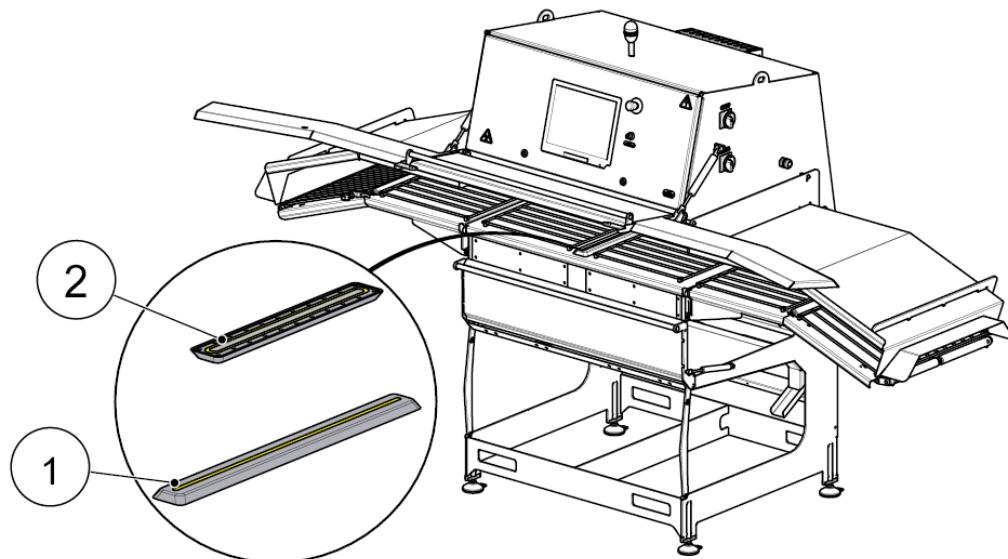

Figure 40 Wipe off the strips
3. Make sure that the product area above and under the conveyor are as dry as possible and without visible wet spots. Wipe upper and lower plastic strips **1** conveyor belt **2** and the grids **3**, shown in (Figure 40). Large drops of water diminish the radiation intensity and affect image acquisition.